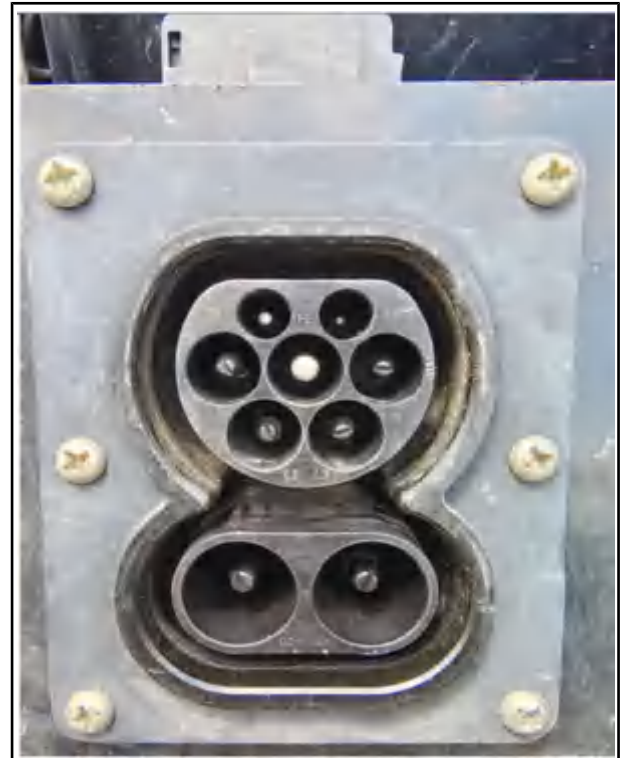

Fig 5-80
- The European standard charging port as shown in the figure 5-80 is an AC/DC integrated charging socket. The upper part is for AC charging, which can support 400VAC and 230VAC charging, and the lower part is for DC charging, which can support DC charging through a charging pile.